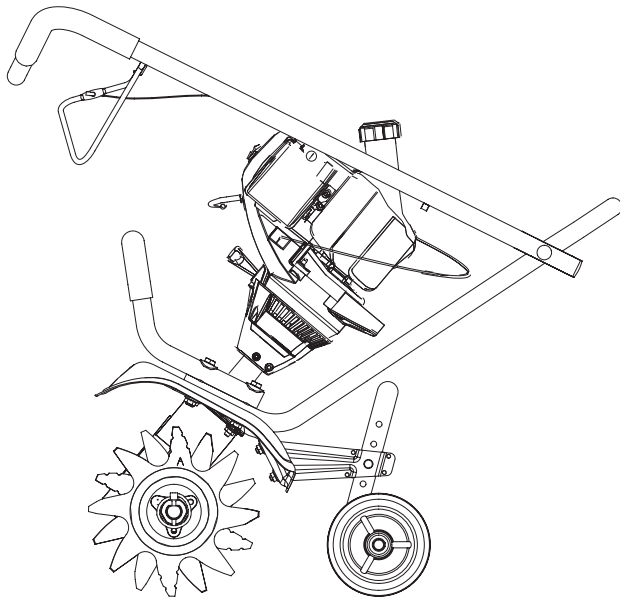

Fig. 1
1. Loosen the two knobs on the inside of the handlebars (Fig. 1).
2. With the unit upright, swing the handlebars up into the operating position (Fig. 1).